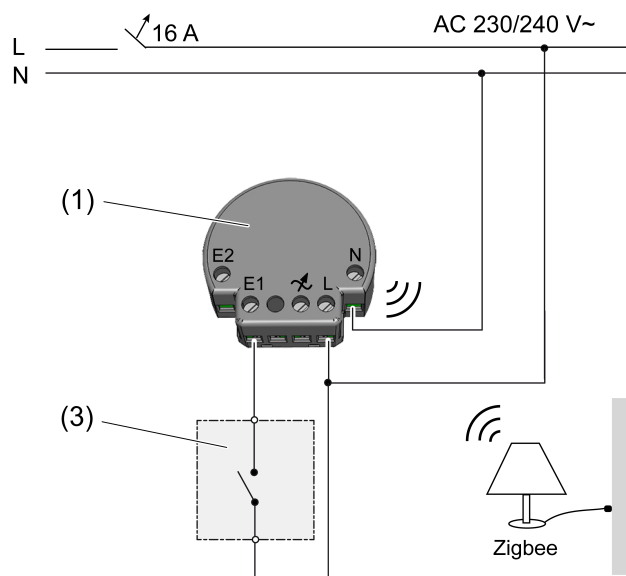
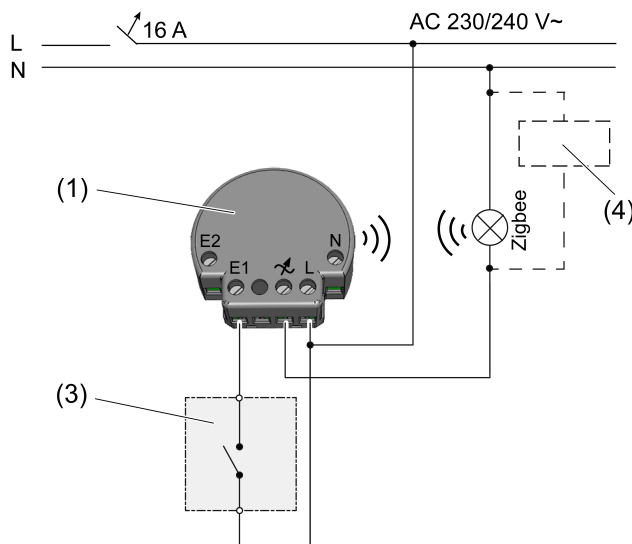
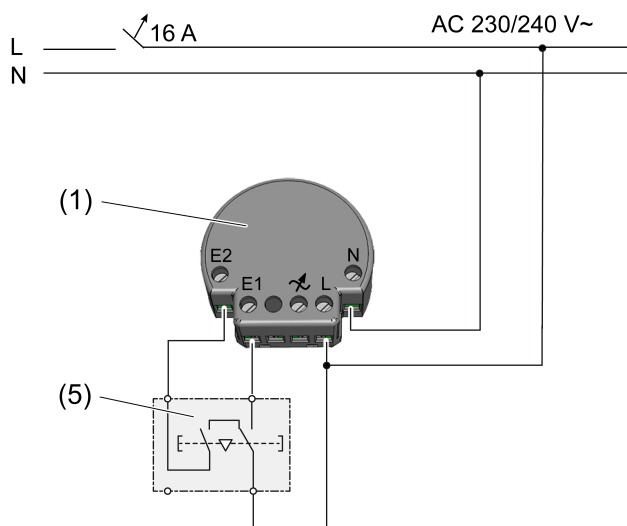

Figure 2: Connection diagram switch or sensors (with neutral conductor)
Figure 3: Switch connection diagram (without neutral conductor)
Figure 4: Venetian blind push-button connection diagram (5)
If there is a neutral conductor, the push-button interface should be connected to it in any case (Figure 2).
When operating without a neutral conductor, the lamp wire must be connected to the load terminal  $\curvearrowright$ . This is used for the power supply of the push-button interface, the load is not switched over it. With some HV LED Zigbee lamps it may also be necessary to connect a compensation module (4) to ensure the power supply of the push-button interface or a trouble-free operation of the lamp (Figure 3).
To connect the push-button interface to a venetian blind push-button for operating curtains, the connection to a neutral conductor is necessary (Figure 4).
- Make the electrical connection according to the connection diagram (Figure 2), (Figure 3) or (Figure 4). In doing so, note the clampable conductor cross-section (Figure 5).
- When connecting without neutral conductor, connect a compensation module (4) if necessary (Figure 3).